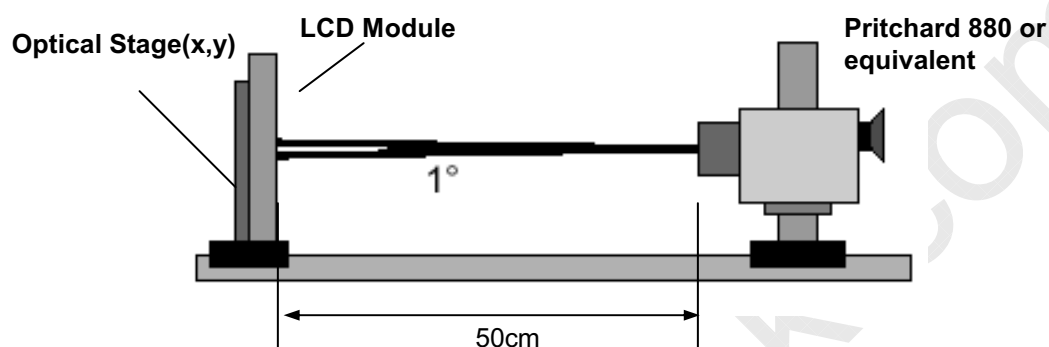

FIG. 1 Optical Characteristic Measurement Equipment and Method
Optical characteristics are determined after the unit has been 'ON' and stable in a dark environment at  $25 \pm 2^\circ\text{C}$ . The values are specified at distance 50cm from the LCD surface at a viewing angle of  $\Phi$  and  $\theta$  equal to  $0^\circ$ . FIG. 1 shows additional information concerning the measurement equipment and method.
- ※. Surface luminance is determined after the unit has been 'ON' and 1Hour after lighting the backlight in a dark environment at  $25 \pm 2^{\circ}\text{C}$ . Surface luminance is the luminance value at center 1-point across the LCD surface 50cm from the surface with all pixels displaying white. For more information see the FIG. 1.